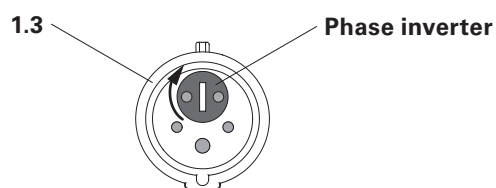

Fig. C1.03
- Turn the phase inverter by 180° in the Adaptor Cable RCS (1.3) (Fig. C1.03)